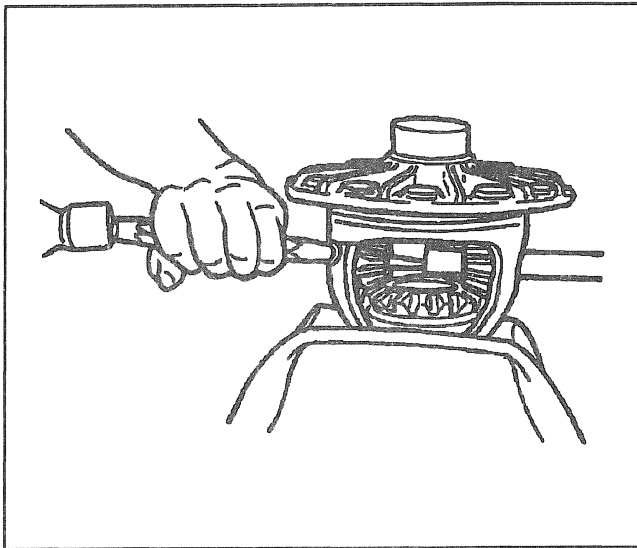
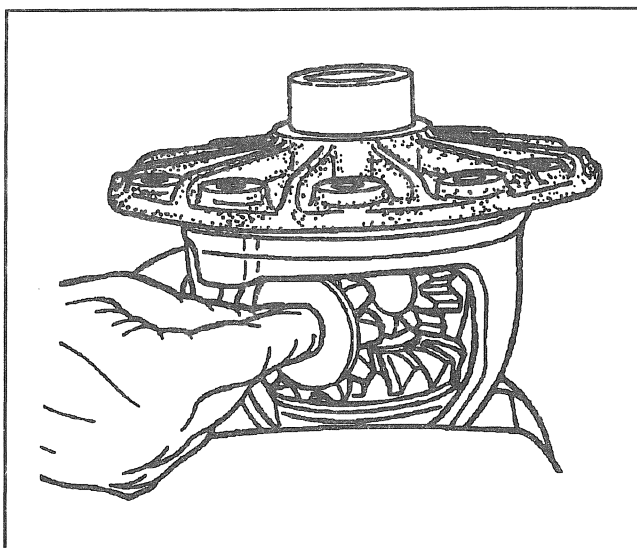

Figure 7—Removing the Pinion Shaft
Figure 8—Removing/Installing the Pinion Gears
13. Pinion shaft (28) using a hammer and brass drift (Figure 7).
14. Pinion gears (24) and thrust washers (26).
- Rotate the side gears until the pinion gears are in the opening of the case (Figure 8).
15. Side gears (25) and thrust washers (27).
16. Replace the cover (14) using two bolts (17) to keep the pinion from falling.